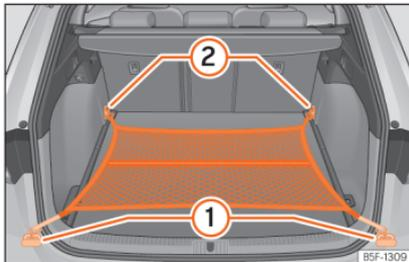

Fig. 132 In the luggage compartment: net bag hooked up at floor level.
- Secure the net hooks to the fastening rings (1) and (2) »» Fig. 132 »» ⚠. The bag zip should be facing upwards.